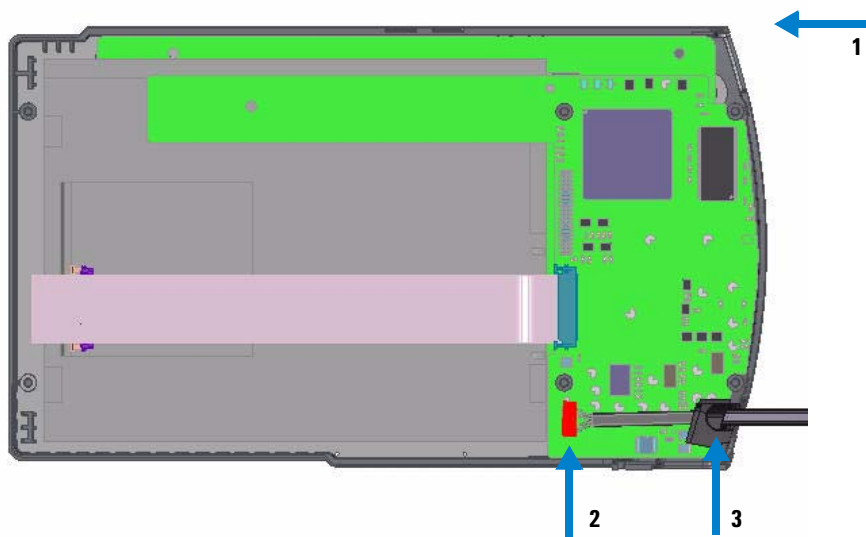

Figure 111 Rear Panel - location of cable, connector and release button
- 5 The release button [1] (shown in Figure 111) may fall out during the removal. Keep it.